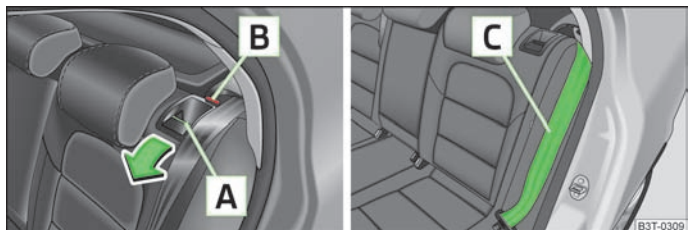

Fig. 61 Unlock the seat backrest/lock the seat backrest
- Unlock the seat backrest by pressing the unlocking handle **A** » Fig. 61 and fold it completely forwards.
- Place the rear outer seat belt **C** » Fig. 61 behind the edge of the side trim panel.